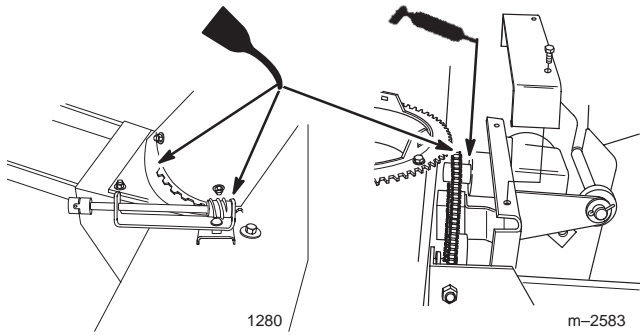

Figure 33
4. Lubricate the impeller shaft bearing (Fig. 33).
2. Coat the entire chain with oil and allow to penetrate each roller (Fig. 33).
3. Place a few drops of oil on discharge chute rotator shaft and discharge chute mounting (Fig. 33).